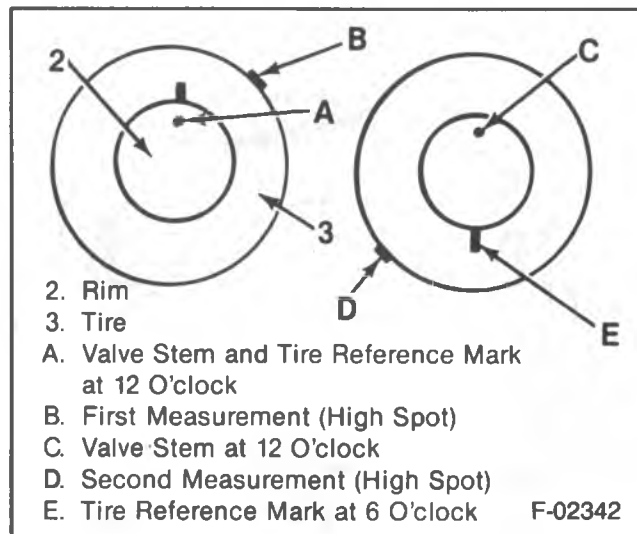

Figure 6 — Tire to Wheel Vectoring — Excessive Runout
7. If the clock position of the high spot is 6 hours from the original high spot, the tire is the major contributor to the runout problem (figure 6).